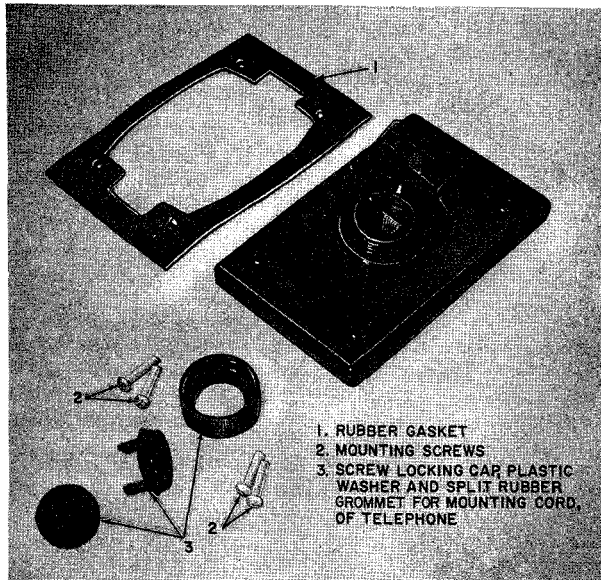

Fig. 6—625WP Connecting Block (All Parts Included in Package)◆
- Revise Fig. 6 to show current components of 625WP connecting block
- Block, Connecting, 625WP (Fig. 6)
2.10 The **625WP** connecting block (Fig. 6) is for use in outdoor locations and where severe environmental conditions exist. It is intended to mount on a B outlet box AT-8732. A gasket is provided to seal the faceplate assembly and box. A plastic screw-on cap, plastic washer, and split rubber grommet is provided to seal the connection between the telephone mounting cord and jack.
3.10 **625WP Connecting Block:** This block (Fig. 6) should be mounted on a B outlet box. A parts package is provided with the 625WP connecting block consisting of a rubber gasket and four mounting screws to seal the mounting block to the outlet box. Also provided is a plastic screw-on cap, a plastic washer, and a split rubber